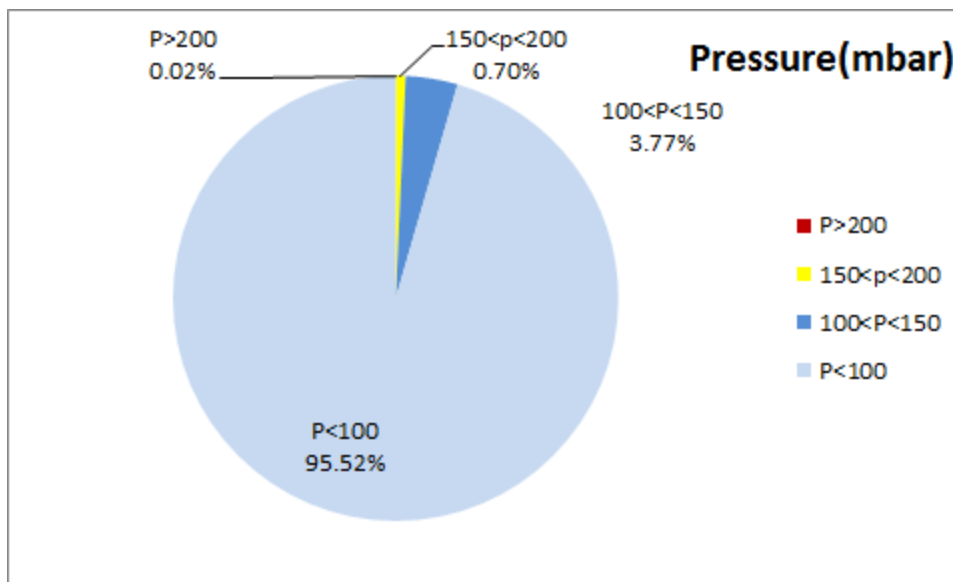

Figure 1- Pressure distribution over the working hours
- As depicted in Figure 1 only 0.02% of total working time, pressure is above 200 mbar and 0.72% above 150mbar. So it can be concluded that operation of this filter is fully acceptable in this condition.